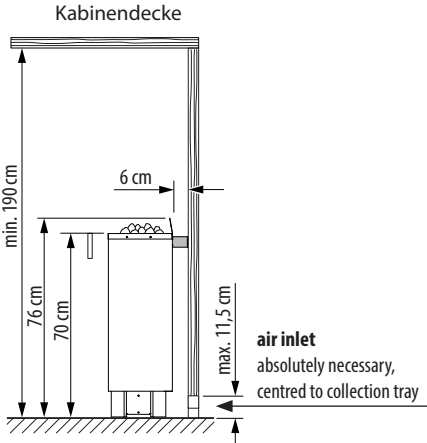

Fig. 1
- The minimum height of the sauna cubicle is 1.90 m on the inside (Fig. 1)